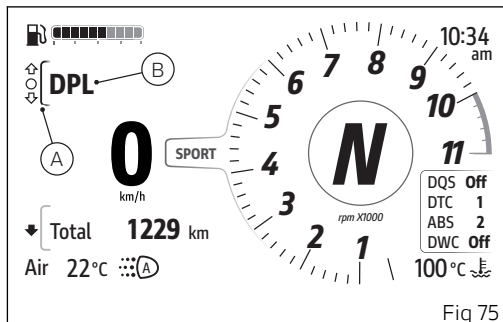

Fig 75
- Select the Interactive Menu (A, Fig 75) by pressing and holding button (1) pressed for a long time.
- Use buttons (1) and (2) to select item "DPL" (B, Fig 75) and press the ENTER button (3).